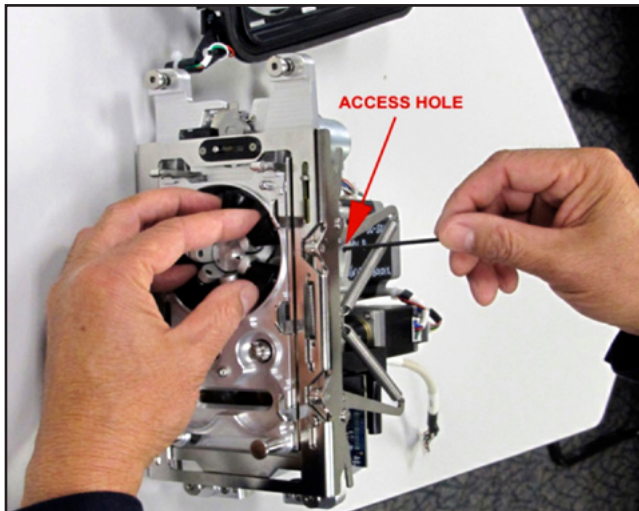

Figure 3-70 Loosening the Hub Roller Locking Screw
- 53.2 Place Fluidics Module on a secure location as shown in Figure 3-70.
- 54.2 Place Fluidics Module on a secured location as shown in Figure 3-70.